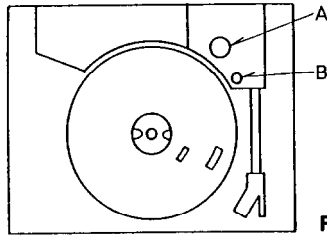
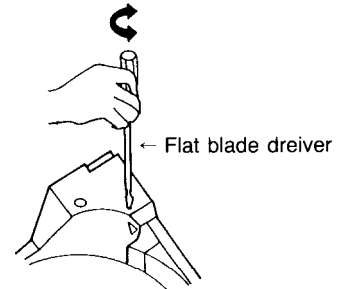
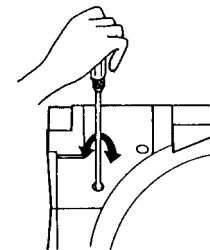

Fig. 1
Fig. 3
Fig. 4
3-1. Needle tip height adjustment (B section) Refer to Fig. 1 and Fig. 3
4. Shift the arm to a position over the record (tone arm in the free condition), and make the adjustment as shown in Fig. 3 so that the tip of the needle is 5mm to 11mm clear of the rubber sheet.
3-2. Lead in adjustment (A section) Fig. 1 and Fig. 4 Test record: ONK-1000
2. As shown in Fig. 4, make the adjustment to the following counts: